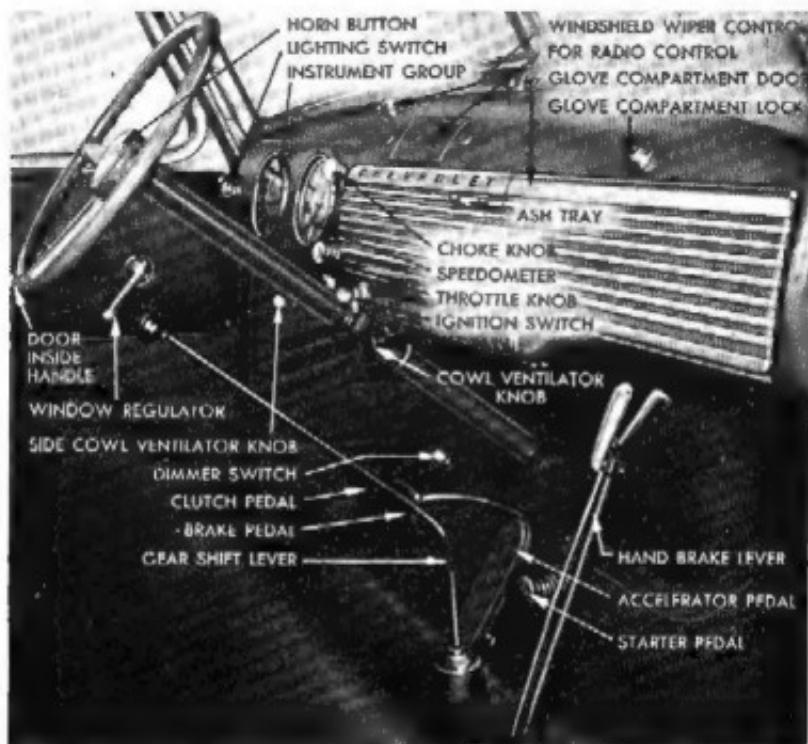
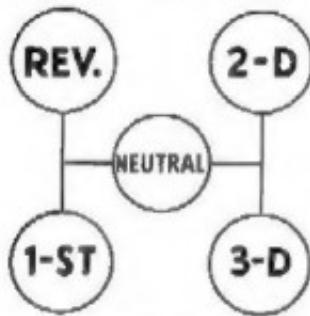
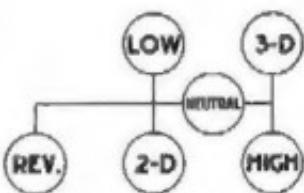

Fig. 2—Controls and Instruments—1-1/2 and 2 Ton
Fig. 12—Three-Speed Transmission Shifting Diagram
Fig. 11—Four Speed Transmission Shifting Diagram
Hand Brake Lever—1-1 $\frac{1}{2}$ and 2 Ton. Extends up through floor to the right of the gear shift lever with the grip just below the instrument panel (fig. 2). Pulling this lever back applies the rear wheel brakes by means of mechanical linkage entirely independent of the hydraulic system. To release brakes, grip
Gearshift Lever (4-speed Synchro-mesh Transmission). Extends to the left and back from transmission cover dome at center of floor (fig. 2). This lever is used to shift the transmission gears to the desired position. Figure 11 shows the lever knob positions when the transmission is in neutral, reverse and the four forward speeds. To shift the transmission into any of the forward speeds, disengage the clutch, move the lever across neutral to right or left as desired, and then forward or back into gear.
Figure 12 shows the gearshift pattern in neutral, reverse and three forward speeds. To shift into any gear position, disengage the clutch, move the shift lever up or down from neutral position and then forward or back into the desired gear.
2. Move gearshift lever into low gear position. (If 4-speed transmission see Figure 11, or if 3-speed transmission see Figure 12.)
1. Depress clutch pedal and release accelerator at the same time. Move the shift lever into neutral and then to the next higher gear. See shifting diagrams, Figures 11 and 12.
2. Move shift lever across neutral to left, against the spring tension as far as it will go. Move lever back into reverse (fig. 11).
2. Raise shift lever up across neutral and forward into reverse position. (fig. 12).